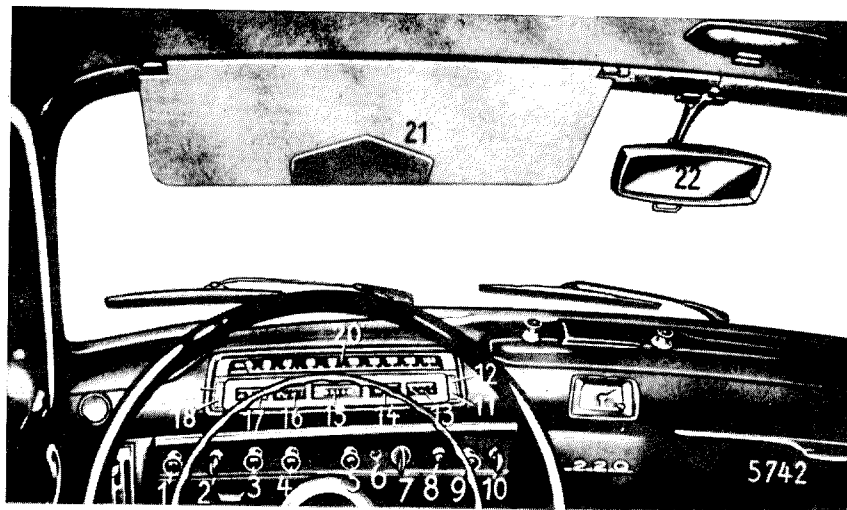

Fig. 30-6/7
3. Back out the adjusting nut (25) and the two rubber bushings (24) of the coil spring (23) (see Fig. 30-6/6).